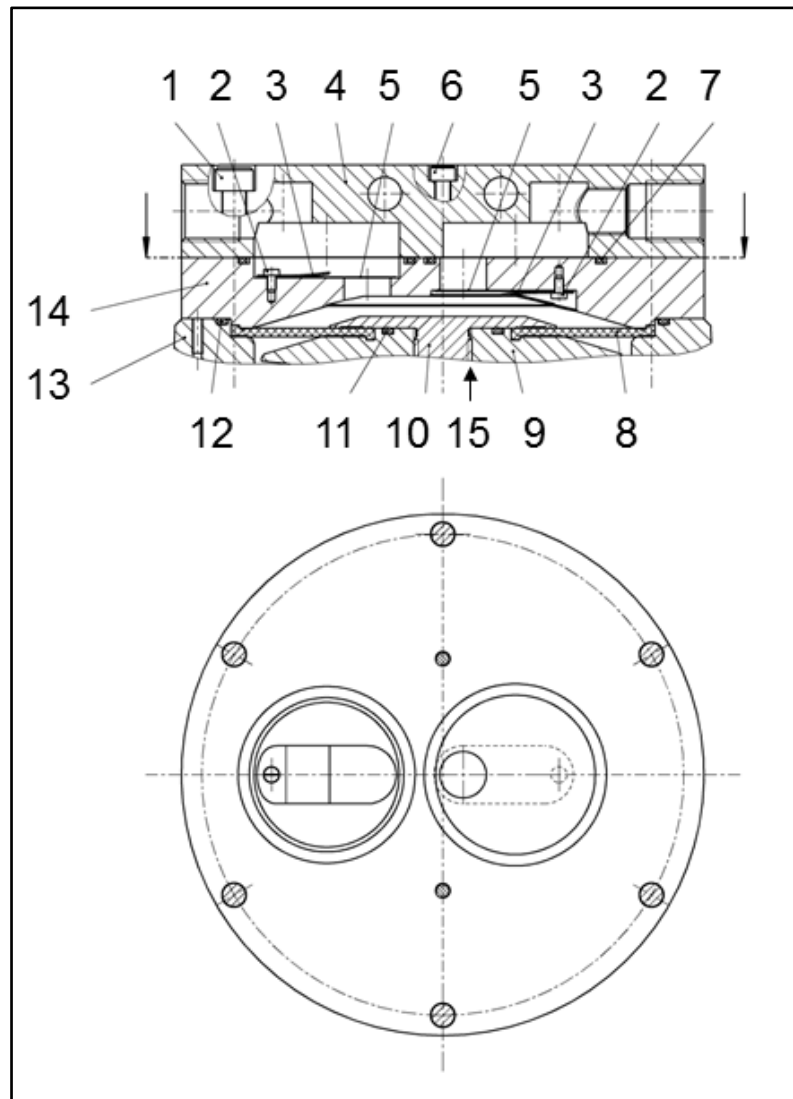

Fig. 10: Pump parts
**According to Fig. 10
i The following item numbers refer to Fig. 10, unless otherwise indicated.